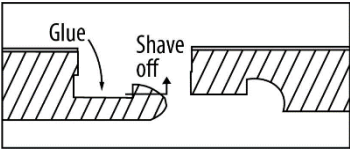

Figure 6
2. Using a small plane or utility knife, carefully shave off the ledge of the groove (**Figure 6**).